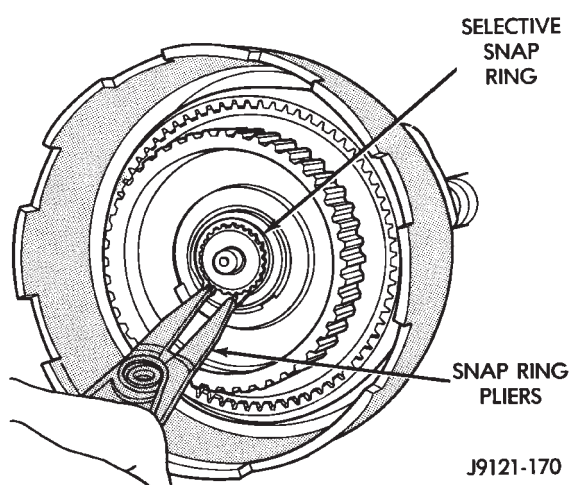
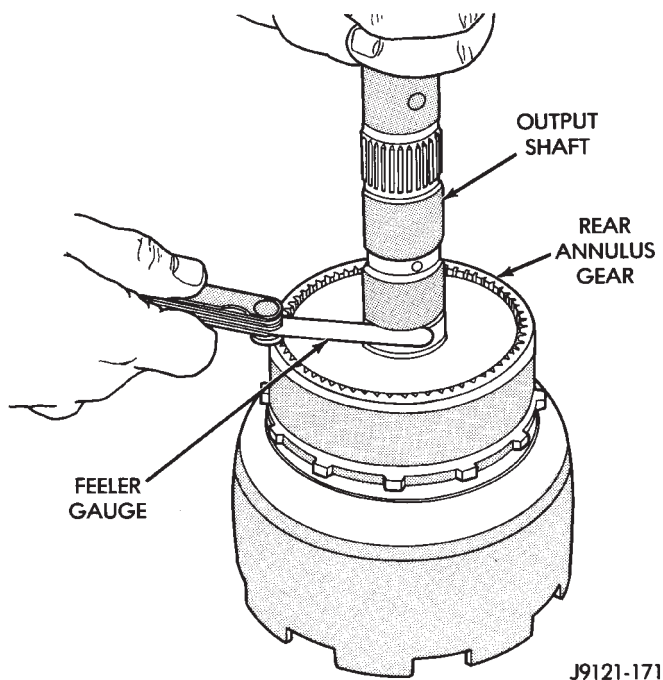

Fig. 242 Installing Planetary Selective Snap Ring
Fig. 243 Checking Planetary Geartrain End Play
(21) Install planetary selective snap ring with snap ring pliers (Fig. 242). Be sure ring is fully seated.
(22) Turn planetary geartrain assembly over so driving shell is facing workbench. Then support geartrain on wood block positioned under forward end of output shaft. This allows geartrain components to move forward for accurate end play check.
(23) Check planetary geartrain end play with feeler gauge (Fig. 243). Gauge goes between shoulder on output shaft and end of rear annulus support.
(24) Geartrain end play should be 0.12 to 1.22 mm (0.005 to 0.048 in.). If end play is incorrect, snap ring (or thrust washers) may have to be replaced. Snap